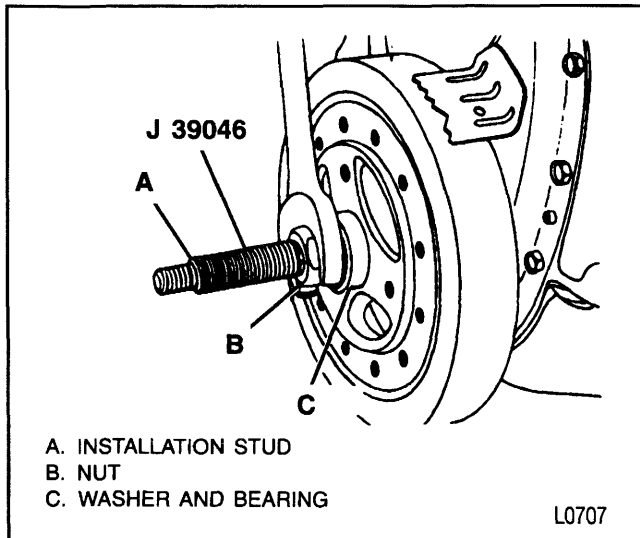

Figure 22—Installing the Torsional Damper
3. Stud (item A, figure 22) to the crankshaft. Thread the stud fully into the tapped hole in the crankshaft.
5. Bearing, washer and nut (figure 22).